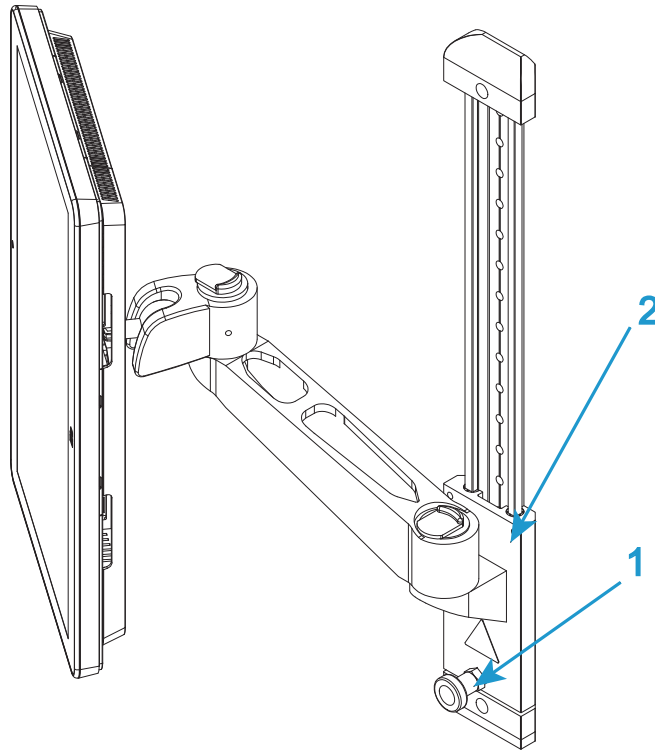

Figure 11. Height adjustment
1. You can adjust the height of the Bluehill[®] Operator Dashboard for the comfort of different operators. Loosen the lock (1 in Figure 11 on page 49) and slide the arm mounting (2 in Figure 11 on page 49) to the desired height. Re-tighten the lock.